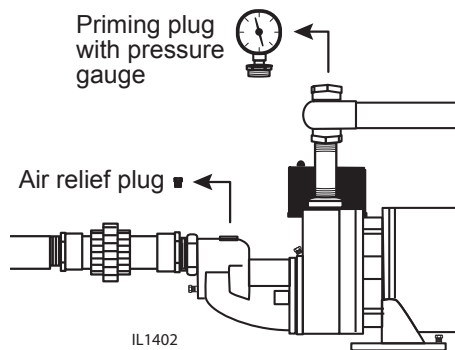

Figure 27 - Remove priming plug
1. Remove the 1/2 in. priming plug with pressure gauge and air relief plug. (Fig. 27)